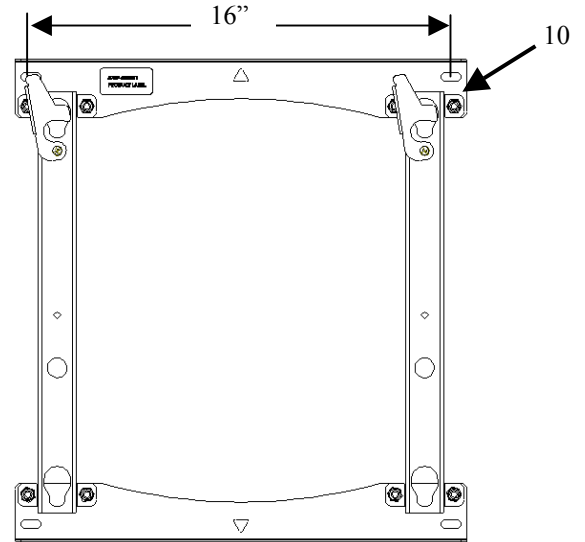

Figure 4. Mounting Holes – 16" Apart on Center
1. Install the lag bolts and washers (two top and two bottom) into the mounting holes, centering the mount on dual wood studs 16" apart on center as shown in Figure 4.